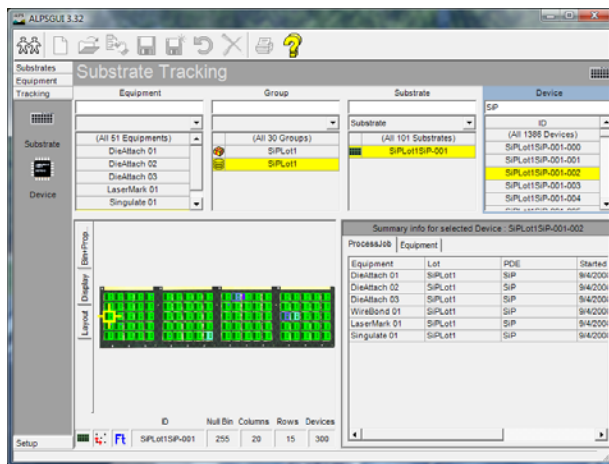

Figure 2. An SDT Enabled Factory / Tracking Screen from ALPS NET
- A unique ID mark on the strip / substrate or tray is a requirement. This ID must correlate to an X/Y location on the strip / substrate or tray. (see figure 2.)